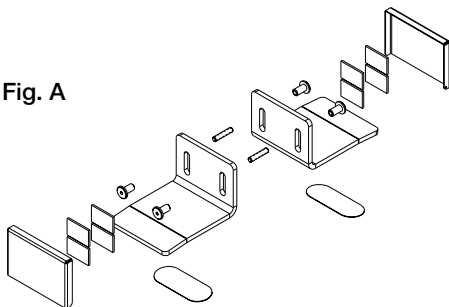

Fig. 1a
- Two (2) 4mm allen wrenches
5. Using the marks above, a drill and a 3/8" drill bit, drill (4) four through-holes perpendicular to the face of the Intermediate Gallery Panel
6. Using the hardware provided loosely install the gallery panel free standing feet as shown (do not install the covers (item 6) at this time) (**Figure A**)
7. Stand the Intermediate Gallery Panel up – with the free-standing feet loosely installed, level the Intermediate Gallery Panel so the top edge is even with the **BOTTOM** edge of the adjacent DH panel top cap trim (**Figure 1a**)